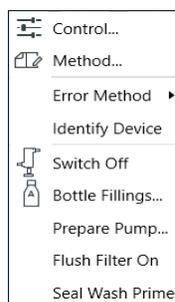

Figure 7 Context Menu
- Change the seal wash solvent and trigger the Seal Wash Prime function from the context menu (see Figure 7 on page 12).